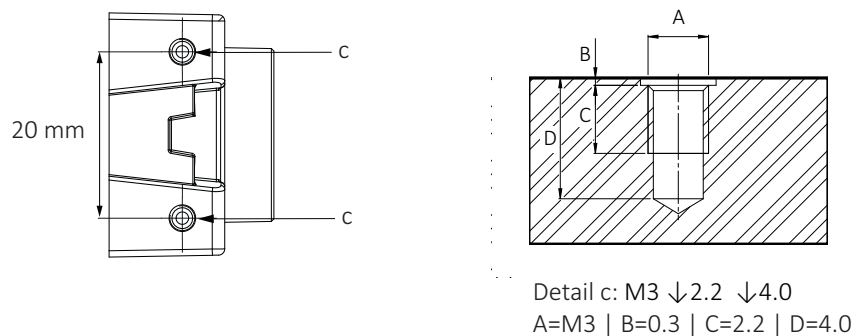

Figure 87: Top and bottom and mounting threads (c)
1. Mount the camera to the base using suitable M3 screws at 0.51 Nm maximum torque for a thread engagement (C) of 2.2 mm between screws and mounting threads, see Figure 87. For technical drawings, see Standard Alvium: Dimensions and mass on page 189.